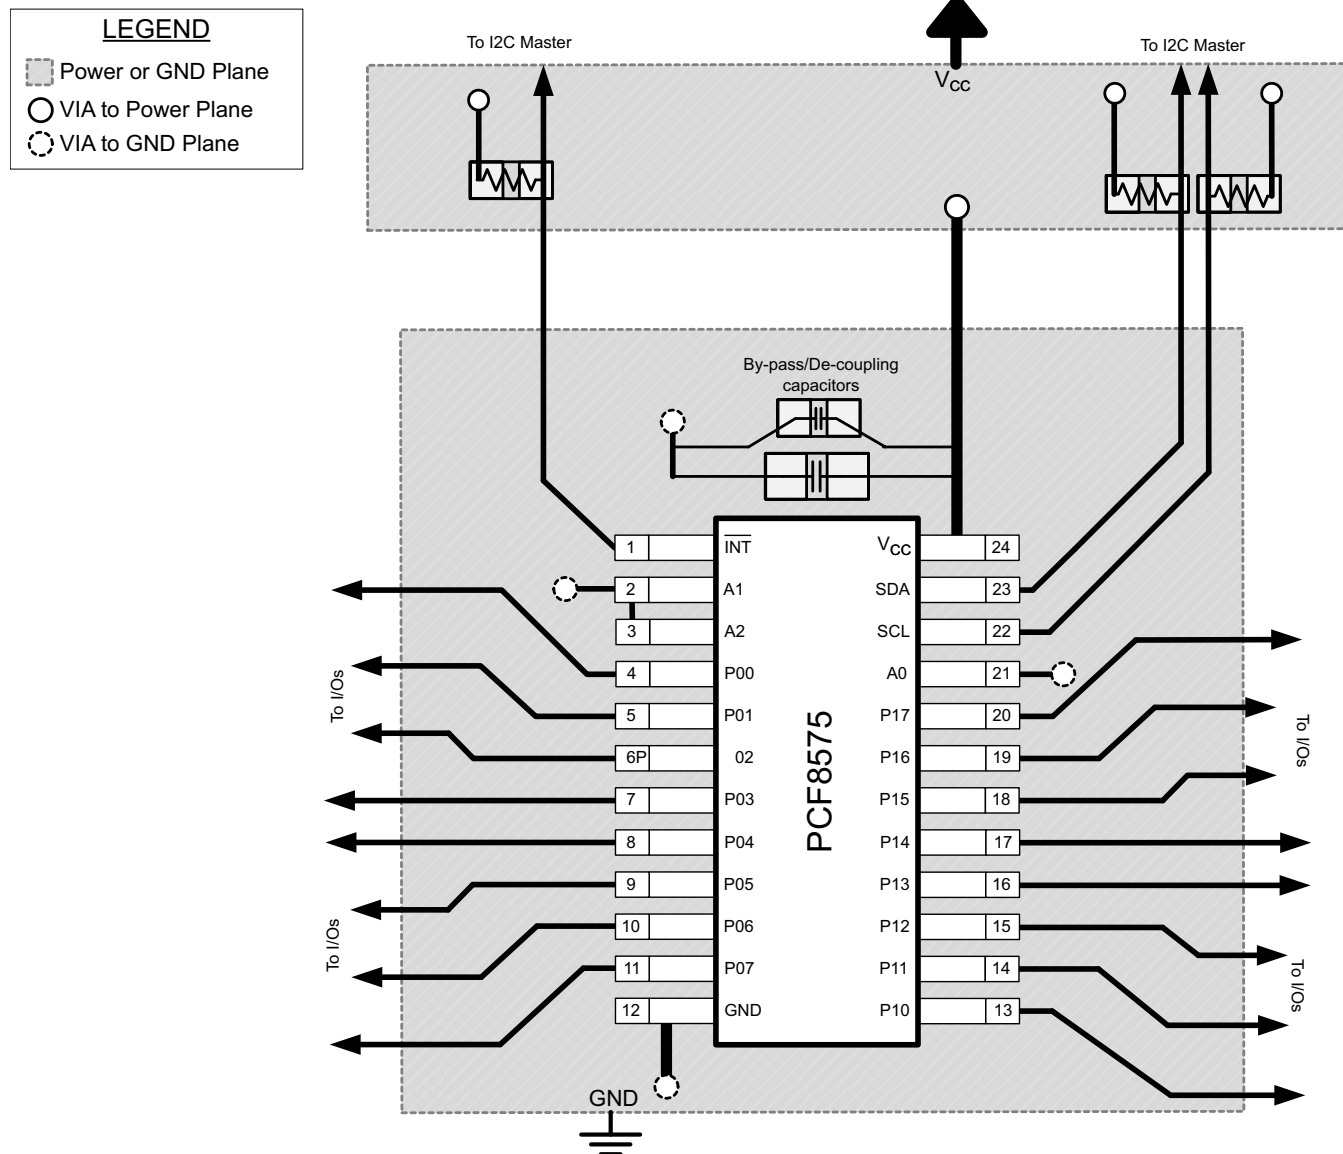

Figure 25. Layout Example for PCF8575
In all PCB layouts, it is a best practice to avoid right angles in signal traces, to fan out signal traces away from each other upon leaving the vicinity of an integrated circuit (IC), and to use thicker trace widths to carry higher amounts of current that commonly pass through power and ground traces. By-pass and de-coupling capacitors are commonly used to control the voltage on the V_{CC} pin, using a larger capacitor to provide additional power in the event of a short power supply glitch and a smaller capacitor to filter out high-frequency ripple. These capacitors should be placed as close to the PCF8575 as possible. These best practices are shown in Figure 25.
For the layout example provided in Figure 25, it would be possible to fabricate a PCB with only 2 layers by using the top layer for signal routing and the bottom layer as a split plane for power (V_{CC}) and ground (GND). However, a 4 layer board is preferable for boards with higher density signal routing. On a 4 layer PCB, it is common to route signals on the top and bottom layer, dedicate one internal layer to a ground plane, and dedicate the other internal layer to a power plane. In a board layout using planes or split planes for power and ground, vias are placed directly next to the surface mount component pad which needs to attach to V_{CC} or GND and the via is connected electrically to the internal layer or the other side of the board. Vias are also used when a signal trace needs to be routed to the opposite side of the board, but this technique is not demonstrated in Figure 25.